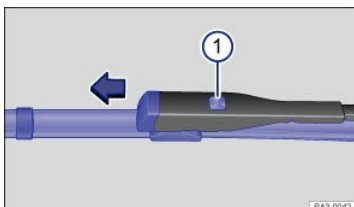

Fig. 178 Changing the windshield wiper blades.
- Press and hold the release button ⇒ Fig. 178 .